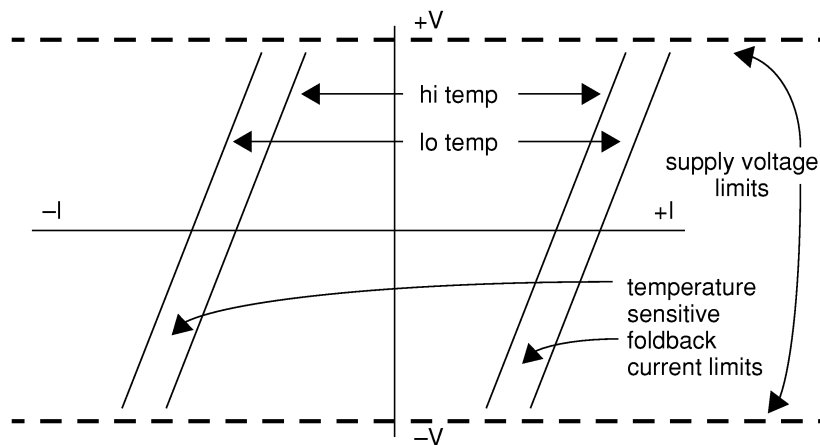
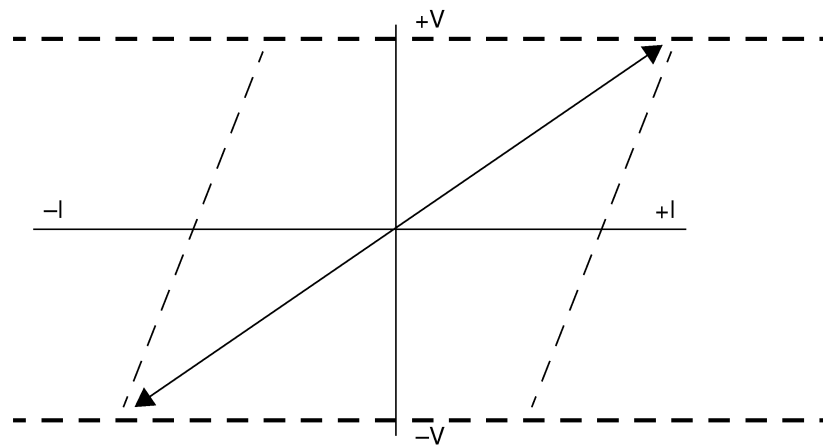

Figure 3-2 Ringling Supply Output Foldback Current Limiting
Figure 3-3 Ringing Supply Resistive Loading
- 3.11 The sinewave oscillator feeds a Class B amplifier, which provides the ringer output. The amplifier incorporates extensive protection for its output transistors, including bipolar foldback current limiting (see Figure 3-2). These features enhance the ringing supply's ability to drive resistive and resistive/capacitive loads, to carry DC current while driving loads, and to survive short-term faults to DC sources. Figures 3-3 through 3-7 are current voltage graphs that illustrate load handling characteristics.